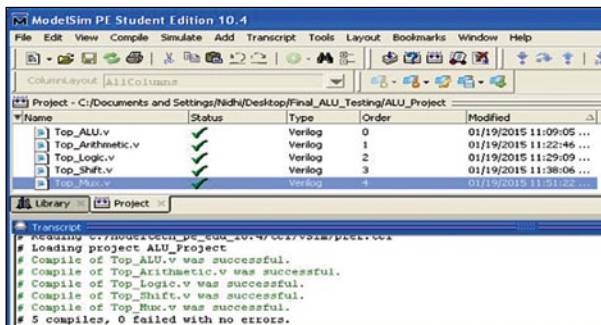

Fig. 9: Compilation window
2. The compilation result is shown on the main window. A green tick is shown against each file name, which means there are no errors in the project (Fig. 9).